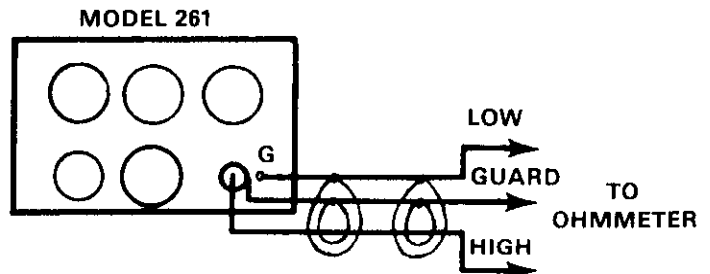

Figure 3-3. Guarded Circuit For Ohmmeter Calibration
4. Carefully shield connections when making measurements greater than  $10^8\Omega$ . Use guarded connections for measurements of  $10^9\Omega$  and more, as shown in Figure 3-3. Guarded connections are necessary in such cases to minimize the shunting effects of cable and connector leakage resistance. For example, using the  $10^{10}\Omega$  range, a  $10^{12}\Omega$  leakage resistance will add an error of 1%. To make the proper connections within the unit, place the CAL-OPERATE switch in the CAL position (see Section 4).